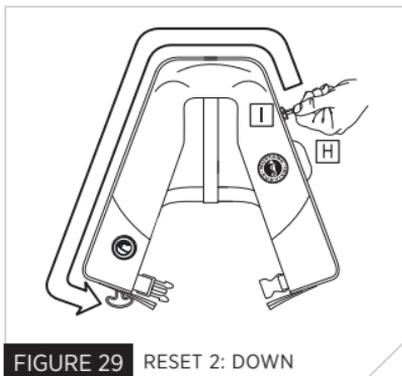

FIGURE 29 RESET 2: DOWN
8. Reset 2: Pull the slider (I) to the Velcro™ tab (H). Close by pulling slider (I) in the opposite direction to the end of the zipper (Fig. 29). Ensure that the inflatable cell does not get caught by the zipper when closing.